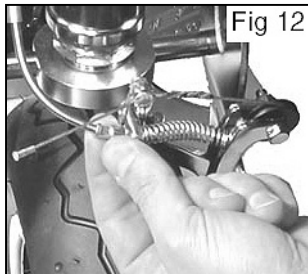

Fig 12
1. Loosen the tension screw on the Brake Lever by rotating it counter-clockwise until the wheel spins freely (fig. 12).